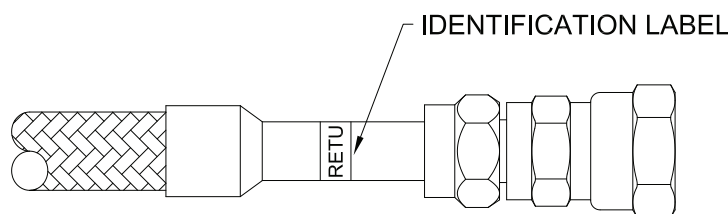

Figure 5-2: Attach Identification Label
1. SUPPLY (red) and RETURN (green) labels are furnished with the gas lines. Apply both RETURN labels to the same gas line by placing one at each end of the gas line in the location shown in Figure 5-2. Apply both SUPPLY labels to the other gas line using the same method. **DO NOT** apply different labels to the same gas line.